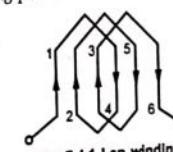

Fig. 7.4.1 Lap winding
- In lap type, the connections overlap each other as the winding proceeds as shown in the Fig. 7.4.1.